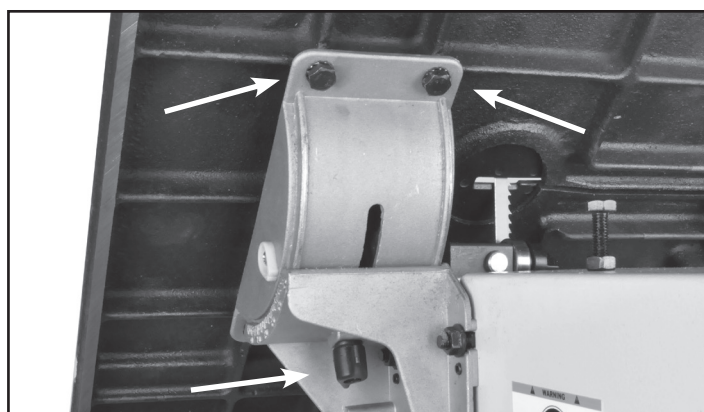

FIGURE 2
2. Attach the table to the trunnion with the four Hex Bolts and Washers (#129, 128). Install two bolts to the right of the blade, hand tightened only. Then loosen the trunnion with the Wing Nut (#113), tip the table to 45 degrees and install the two bolts to the left of the blade. **DO NOT** fully tighten the bolts at this time. Return the table to the horizontal position. FIG. 2.